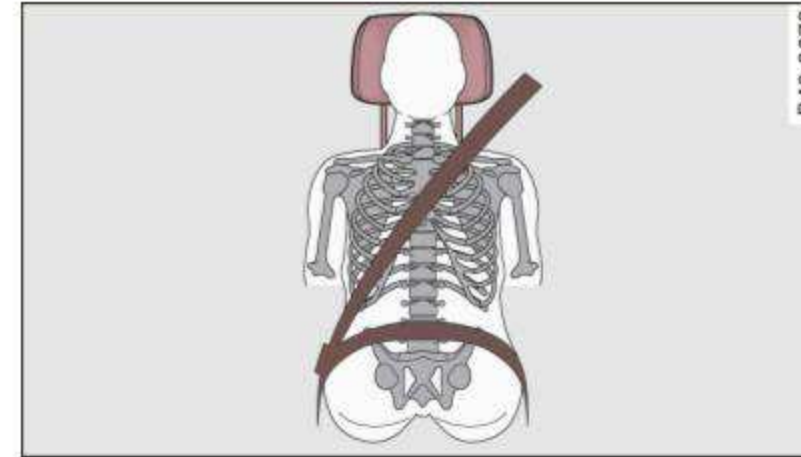
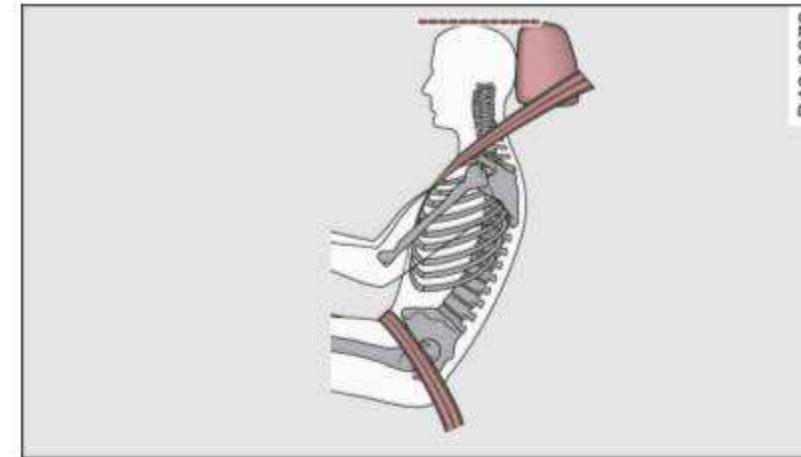

Fig. 86 Correctly adjusted head restraint viewed from the front
Fig. 87 Correctly adjusted head restraint viewed from the side
- Adjust the head restraint so that the upper edge of the restraint is level with the top of your head, but no lower than eye level and so it is as close to the back of your head as possible ⇒ *fig. 86* and ⇒ *fig. 87*.